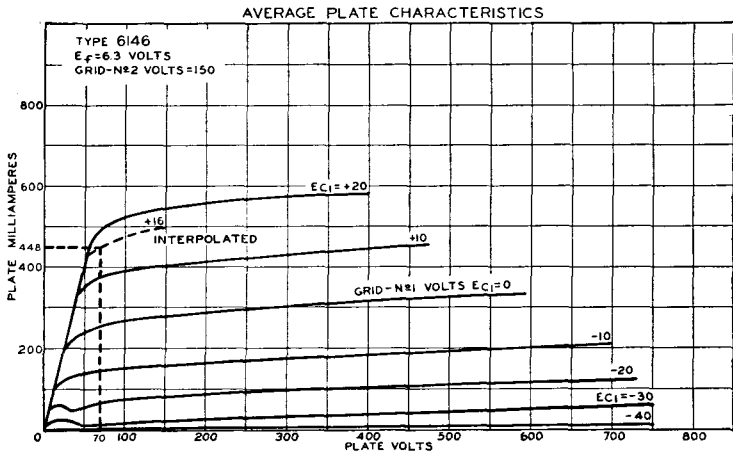

Fig. 44
(1) Plate input ( $P_1$ ) = 600 volts  $\times$  0.112 ampere = 67.2 watts. This value is just within the maximum CCS rating of 67.5 watts.
(2) From Table I,  $K_1$  for a conduction angle of 140 degrees is 4. Therefore, peak plate current ( $i_{bmax}$ ) = 0.112 ampere  $\times$  4 = 0.448 ampere, or 448 milliamperes.
(3) From the plate family for the 6146 given in Fig. 44 ( $E_{c2}=150$  volts), a suitable value for effective minimum plate voltage ( $e_{bmin}$ ) to the right of the "knee" is 70 volts. The corresponding peak positive grid-No.1 voltage ( $e_{c1max}$ , determined from  $E_{c1}$  curves) for a peak plate current of 448 milliamperes is approximately +16 volts.
(4) From Table I,  $K_2$  for a conduction angle of 140 degrees is 0.862. Therefore, power output ( $P_o$ ) = 0.862  $\times$  (600-70)  $\times$  0.112 = 51 watts.
(5) Plate dissipation ( $P_p$ ) = (600  $\times$  0.112) - 51 = 16.2 watts. This value is well within the maximum plate-dissipation rating of the 6146 for class C telegraphy under CCS conditions (20 watts).
(6) The dc grid-No.1 or bias voltage ( $E_{c1}$ ) and peak rf grid-No.1 voltage ( $E_{g1}$ ) are calculated next. (Note that bias voltage  $E_{c1}$  is not the  $E_{c1}$  shown in the characteristics curves, which represents total grid voltage, i.e., the algebraic sum of the bias  $E_{c1}$  and peak rf grid-No.1 voltage  $e_{c1max}$ ). From table I,  $K_3$  and  $K_4$  for a conduction angle of 140 degrees are, respectively, 0.520 and 1.520. From the technical data for the 6146, mu-factor ( $\mu_{g2g1}$ ) is 4.5. Therefore,